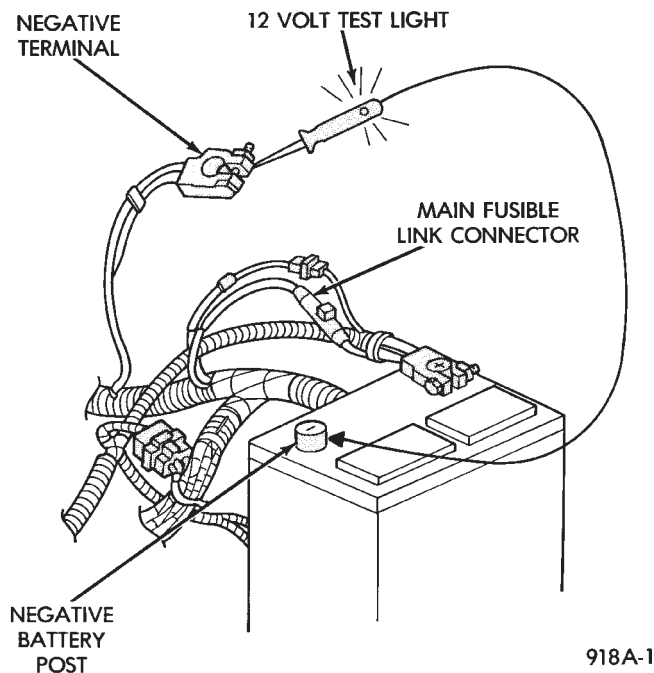

Fig. 18 IOD Test
A normal electrical system will draw from 5 to 30 milliamperes from the battery. This is with the ignition in the OFF position, and all non-ignition controlled circuits in proper working order. The amount of IOD will depend on body model and electrical components. A vehicle that has not been operated for an extended period of approximately 20 days may discharge the battery to an inadequate level. In this case, the Main Fusible Link Connector should be disconnected. The Main Fusible Link connector is located rearward of the battery on the engine wiring harness (Fig. 18).
(4) Connect a typical 12 volt test light between the negative cable clamp and the negative battery post (Fig. 18). The test light may be brightly lit for up to three minutes or may not be lit at all. This depending on the body model or electronic components on the vehicle.